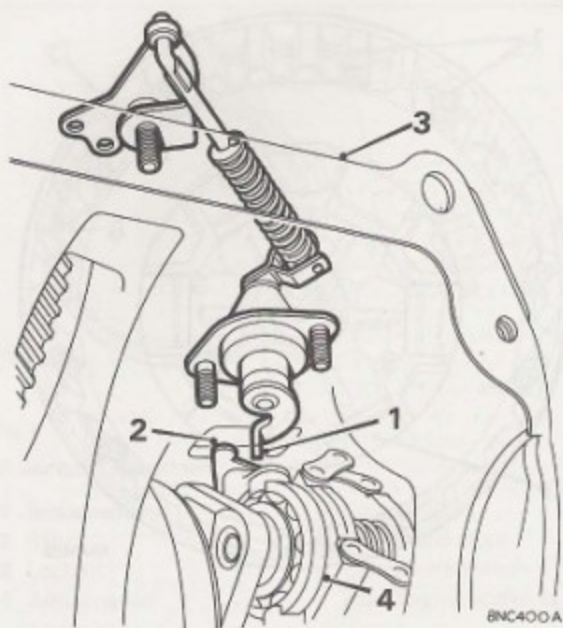

Fig. 8
- Tighten the governor housing securing nuts and screw. Remove tool 18G 1097 and fit the kick-down control assembly with the operating lever positioned as shown in Fig. 8. Fit the bellcrank pivot bolt and connect the kick-down rod ball-joint to the control lever.